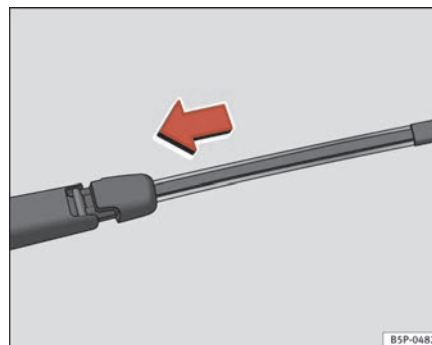

Fig. 145 Mount rear window wiper blade
- Place the blade as shown in the ⇒ fig. 145 and slide the adapter along until it fits into place.